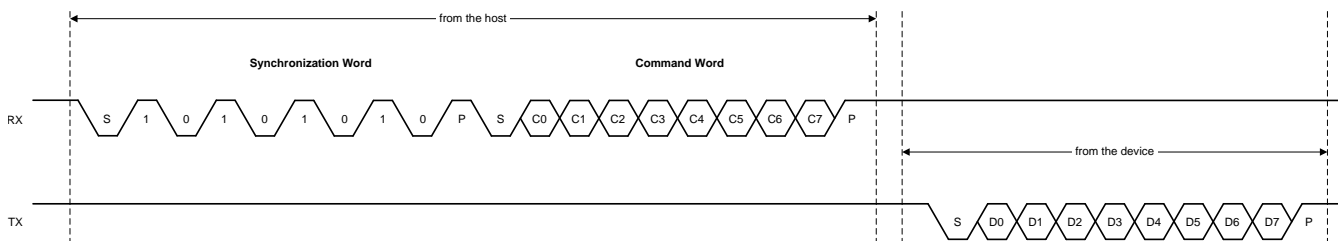

图 58. Example ADS122U04 UART Protocol
Figure 58 shows the timing sequence for the UART communication. In Figure 58, as an example, there is only one byte for the command and one byte for the readback data. There may be multiple bytes for a command or the data that is read from the device. The protocol takes the 8-N-1 format: eight (8) data bits, no (N) parity bit, and one (1) stop bit.